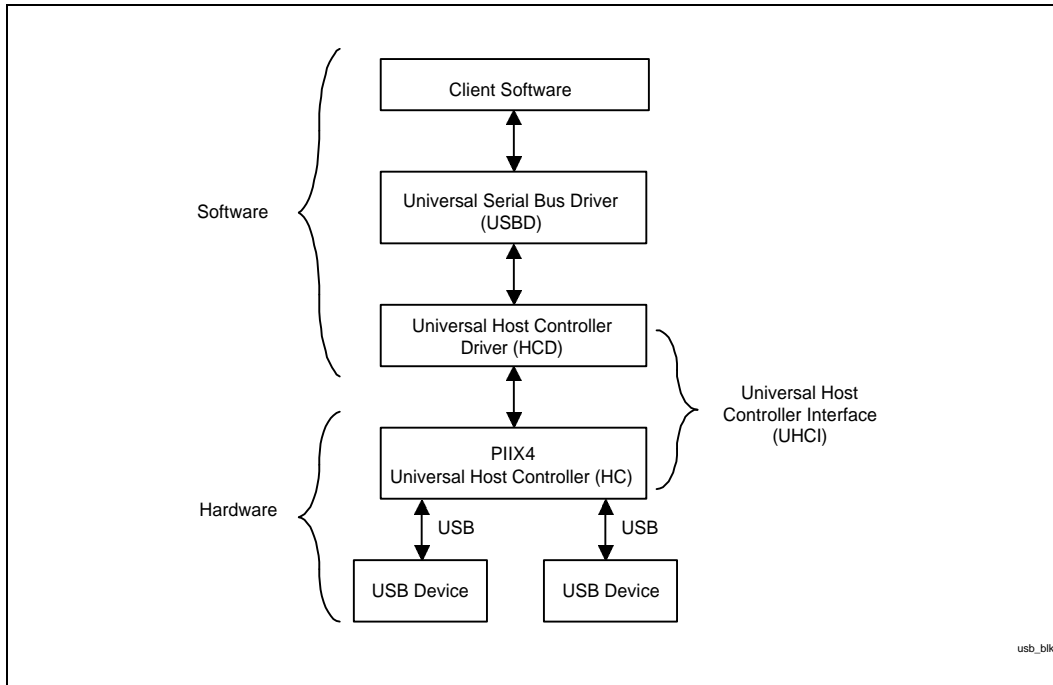

Figure 9. USB System Conceptual View
PIIX4 contains a USB Host Controller (HC). The Host Controller includes the root hub with two USB ports. This permits connection of two USB peripheral devices directly to PIIX4 without an external hub. If more devices are required, an external hub can be connected to either of the built-in ports. The USB's PCI configuration registers are located in function 2, PCI configuration space. The PIIX4 Host Controller completely supports the standard Universal Host Controller Interface (UHCI) and thus, takes advantage of the standard software drivers written to be compatible with UHCI. Figure 9 shows a conceptual view of a USB system. UHCI consists of two parts—Host Controller Driver (HCD) and Host Controller (HC). The Host Controller interfaces to the USB system software in the host via the HCD. The HCD software manages the Host Controller operation and is responsible for scheduling the traffic on USB by posting and maintaining transactions in system memory. HCD is part of the system software and is typically provided by the operating system vendor. HCD provides the software layer between the PIIX4's Host Controller and the USB software layer (also located in the operating system). The UHCI's HCD software interprets requests from the USB and builds Frame List, Transfer Descriptor, Queue Head, and data buffer data structures for the Host Controller. The data structures are built in system memory and contain all necessary information to provide end-to-end communication between client software in the host and devices on the USB.